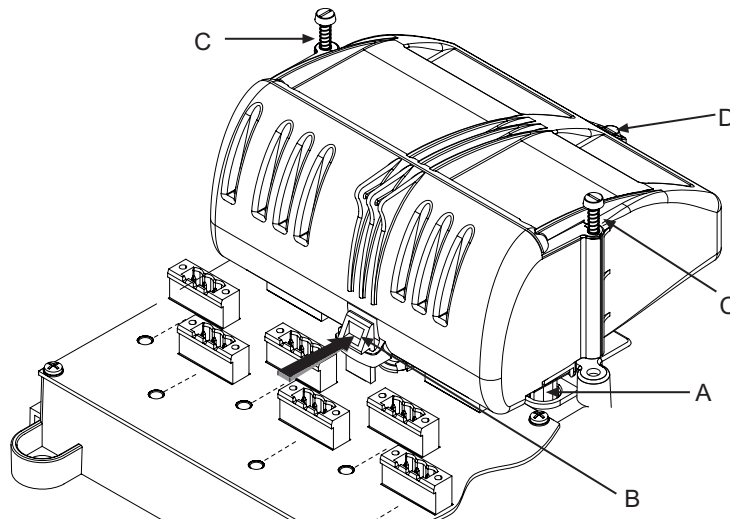

Figure 5.1- Fieldbus Barrier module – fitting & removal
5.2.2.1 Removing a Fieldbus Barrier module (refer to Figure 5.1)
- b) Slowly pull the 9377-FB-R Fieldbus Barrier module away from its connections on the carrier until the safety retaining clip (B) stops further removal.
5.2.2.2 Fitting a Fieldbus Barrier module (refer to Figure 5.1)